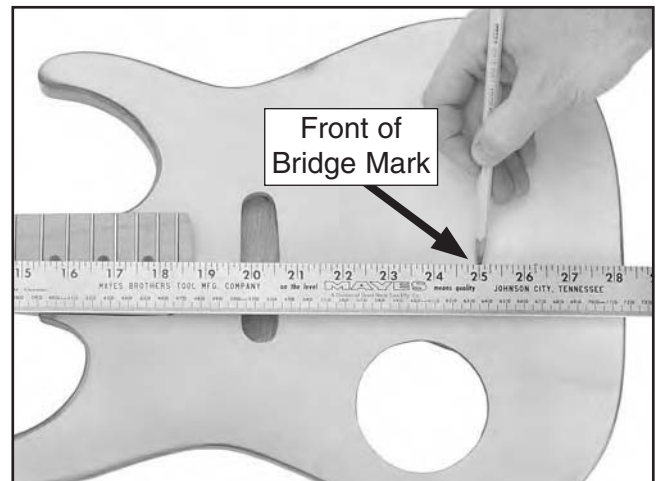

Figure 4. Marking front of bridge.
7. Measure $25\frac{1}{16}$ " from the fretboard side of the nut to the right side of the body and draw a vertical line as shown in **Figure 4**. This line will mark the neck-facing edge of the bridge.